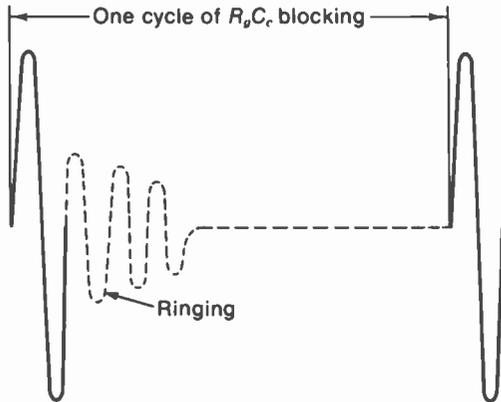

FIGURE 20-8 RINGING OF BLOCKING OSCILLATOR TRANSFORMER AT RESONANT FREQUENCY OF ITS INDUCTANCE AND STRAY CAPACITANCE.
**Pulse repetition frequency.** As shown in Fig. 20-8, one sine-wave cycle of high amplitude is produced at the blocking rate. The succeeding sine waves, in dotted lines, do not have enough